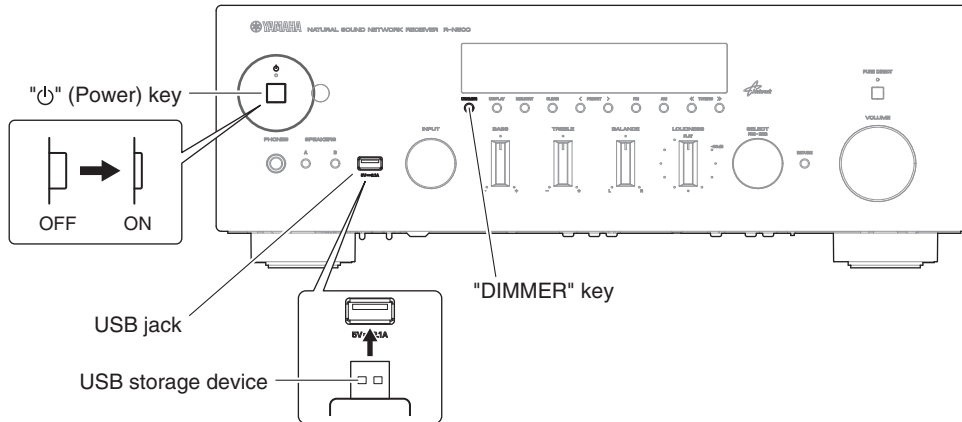

Fig. 1
- 1. Press the “ $\phi$ ” (Power) key to the ON position. (Fig. 1)
- 2. Insert the USB storage device to the USB jack. (Fig. 1)
- 3. While pressing the “DIMMER” key, connect the power cable to the AC outlet. (Fig. 1)
- 6. Press the “ $\phi$ ” (Power) key to turn off the power. (Fig. 1)
- 7. Remove the USB storage device from the USB jack. (Fig. 1)